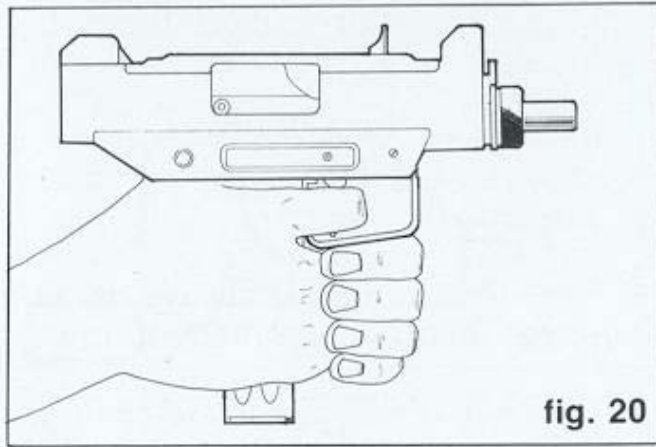

fig. 20
1. After loading the pistol as previously described, grasp the UZI with one hand on the pistol grip (trigger finger outside of trigger guard) and the other hand around the shooting hand. (fig. 20).